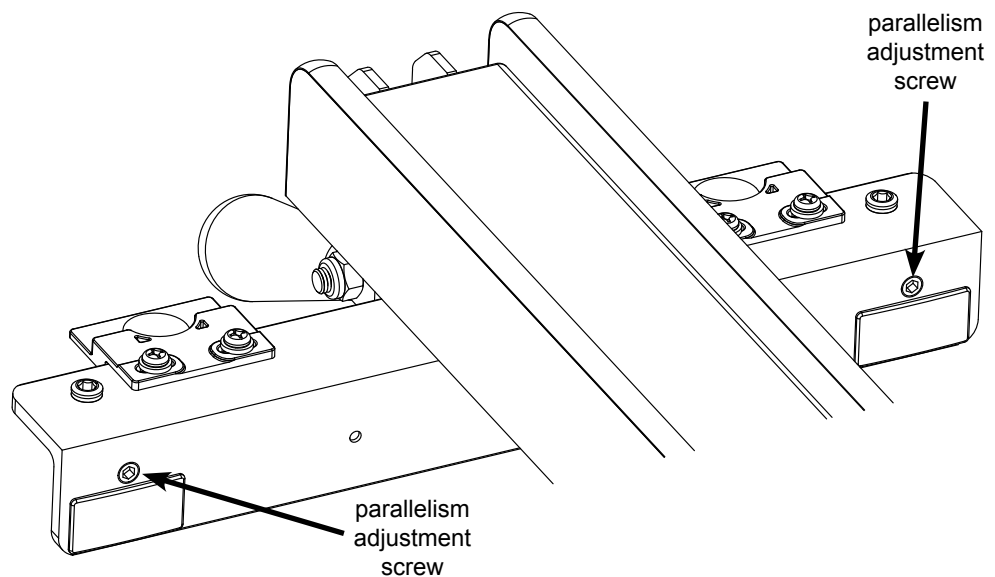

Fig. 20
20. Press down on the fence handle to clamp the fence to the front tube. If the fence does not clamp tightly enough to hold its position against a moderate amount of force, you can increase the clamping pressure by turning both parallelism adjustment screws clockwise using a 5 mm hex key. Those screws are located in the vertical edge of the fence cross-bracket (see Fig. 20). Alternatively, if too much force is required to push the fence handle down to clamp the fence to the front tube, you can reduce the clamping pressure by turning both parallelism adjustment screws counter-clockwise.
The first step is to align the face plates to be parallel to the miter slots. Begin by sliding the fence along the front tube until the left face plate is flush with the right edge of the right miter slot. Lock the fence handle and check that the face plate is flush with the miter slot edge along its whole length (see Fig. 25). You can check this either visually or by running your finger along the face plate and miter slot edge. If there is any misalignment, you can correct it by turning one of the two parallelism adjustment screws in the vertical edge of the fence cross-bracket (see Fig. 20).